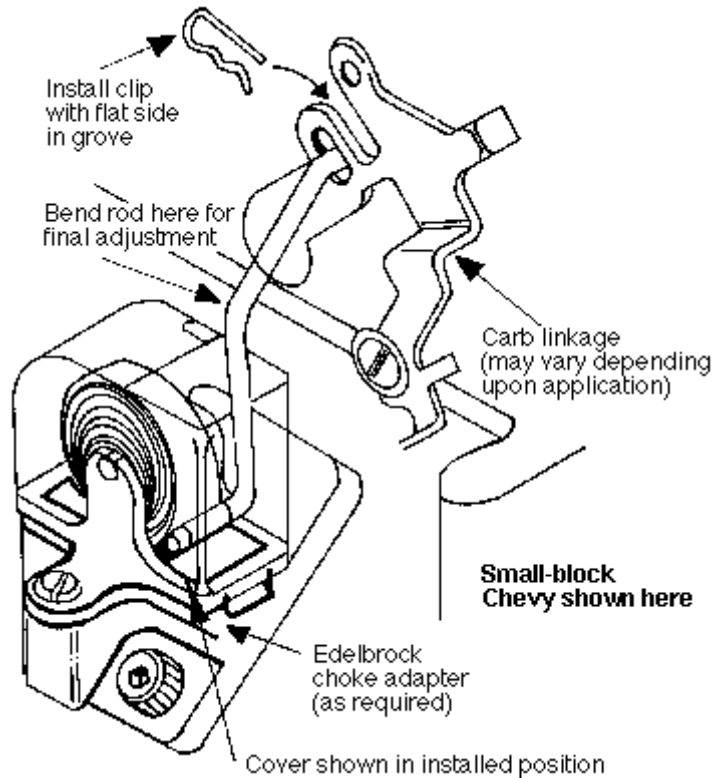

Figure 14
5. Insert plain end of Edelbrock choke rod in rolled eye of spring and clip end in carburetor linkage. See Figure 14.
6. Open throttle by hand and push on choke blade. By bending link, adjust to the same pre-load condition that you felt with the stock manifold. See Figure 14.
7. When pre-load is set, remove link from carburetor end. Slide cover over link to base. Push down on cover until it snaps in place. See Figure 14.
8. Replace clip end carburetor linkage and install clip furnished. See Figure 14.